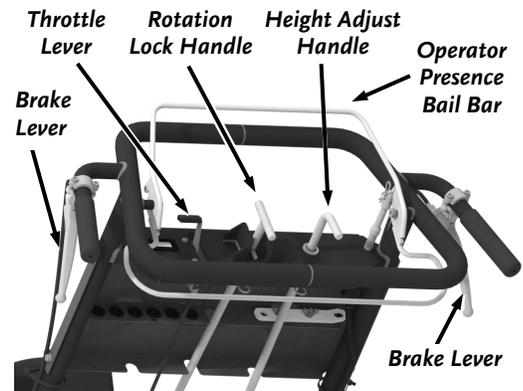

Figure 8
Familiarize yourself with all of the Control Levers and their functions before operating the XD17 STUMP GRINDER (**Figure 8**).
2. Release the Operator Presence Bail Bar to stop the Engine (**Figure 8**).